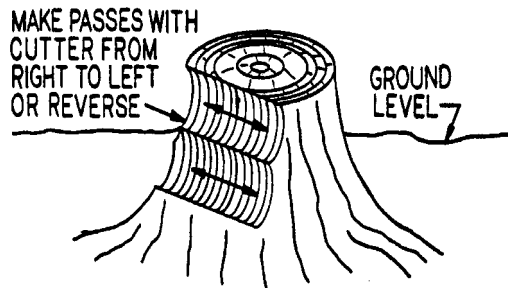

fig. 8
1. Start to cut the stump at the extreme left (rear position) or extreme right (front position). Swing the cutter head across the stump, cutting approximately 2" of wood at each pass. As you become more familiar with your machine, you will be able to cut left to right and right to left. The hardness of the wood and the sharpness of the teeth will dictate how deep and how fast you cut. See figure 8.